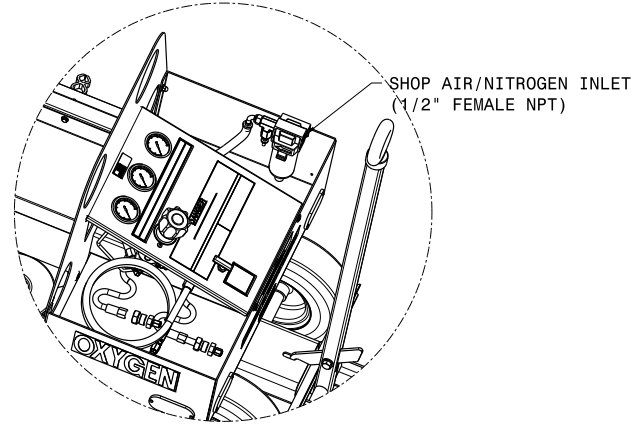

FIGURE 3 – Shop Air Location
1. Connect shop air supply (see Figure 3)